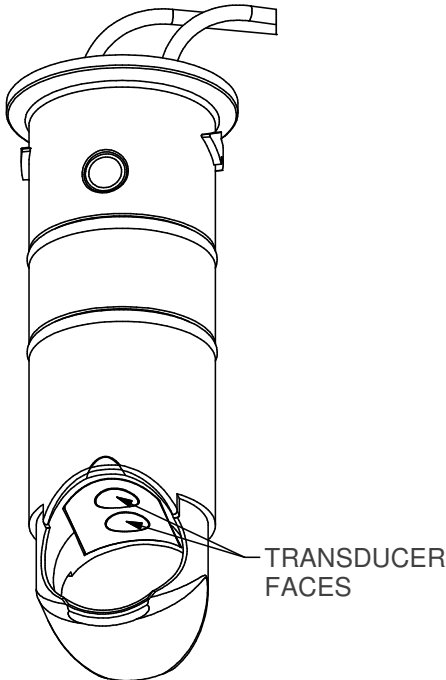

Figure 10
3. The faces of the transducers need to be clean and free of oily substances for accurate operation. Do not touch transducers with fingers, oily rags, etc. DO NOT use wire brushes or abrasives to clean the faces of the transducers (see Figure 10).